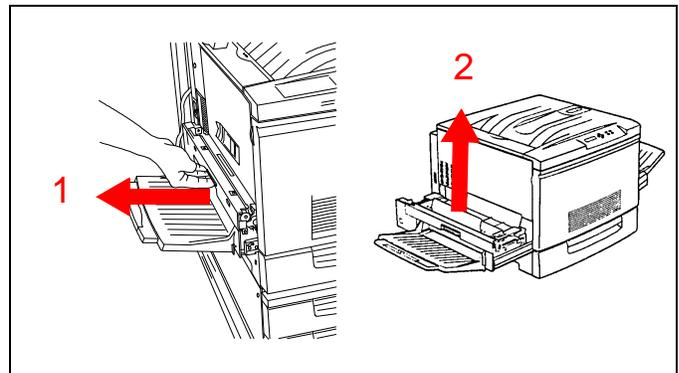

Figure 24
1. See Figure 24. Pull out the lower left side unit as far as it will go.